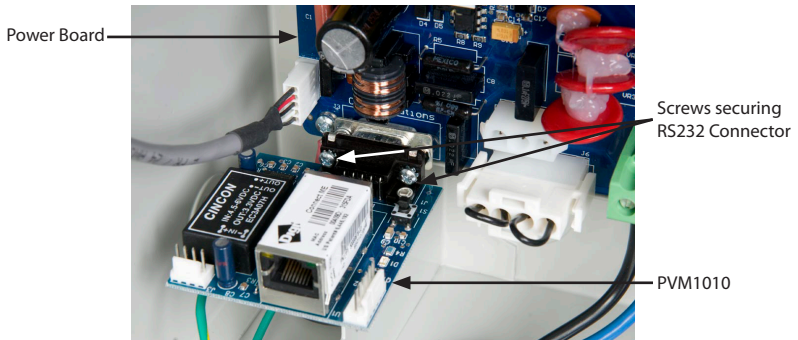

Figure 1-5 Securing the PVM1010 with two screws
5. Use the two 4-40-type screws, provided in the product package, to secure the PVM1010. Refer to Figure 1-5.
6. Plug the power cable, provided in the product package, into the connector located at J1 of the inverter's power board. Refer to Figure 1-5.